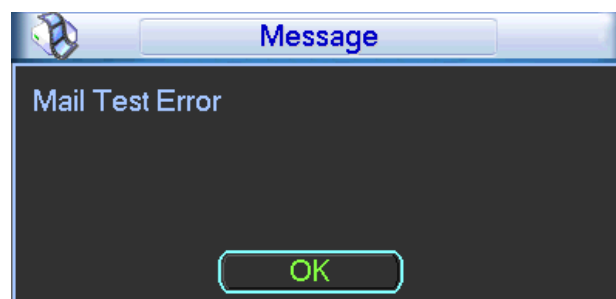

Figure 5-28
- Interval: Please check the above box to enable this function and then set the corresponding interval. System can send out the email regularly as you set here. Click the Test button, you can see the corresponding dialogue box to see the email connection is OK or not. See Figure 5-28.